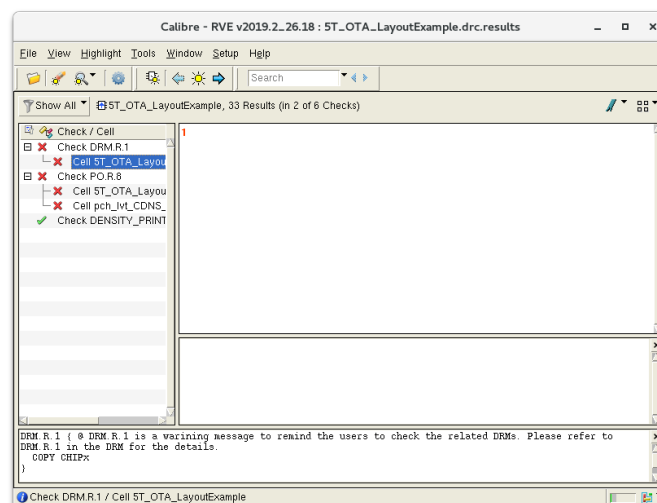

Fig. 14. DRC results
2. Once DRC is complete, a new window will appear (Fig. 14) showing a breakdown of each DRC violation. Each violation category may contain one or more instances, each of which is assigned a unique number. By clicking on an instance, you can view a description of the violated design rule. Additionally, you can highlight a violation instance by right-clicking on it and selecting "Highlight," or by pressing the **H** key on your keyboard. This will cause the Layout Editor window to display flashing white lines indicating the location of the selected violation.
3. If you followed this tutorial carefully you should only see the DRC violations in Fig. 14 (DRM.R.1 and PO.R.8). Fix any other DRC violations. You might want to check the tsmc65 DRM (located in docs/T-N65-CL-DR-001 2 4.pdf) for more details on the violations you are getting.